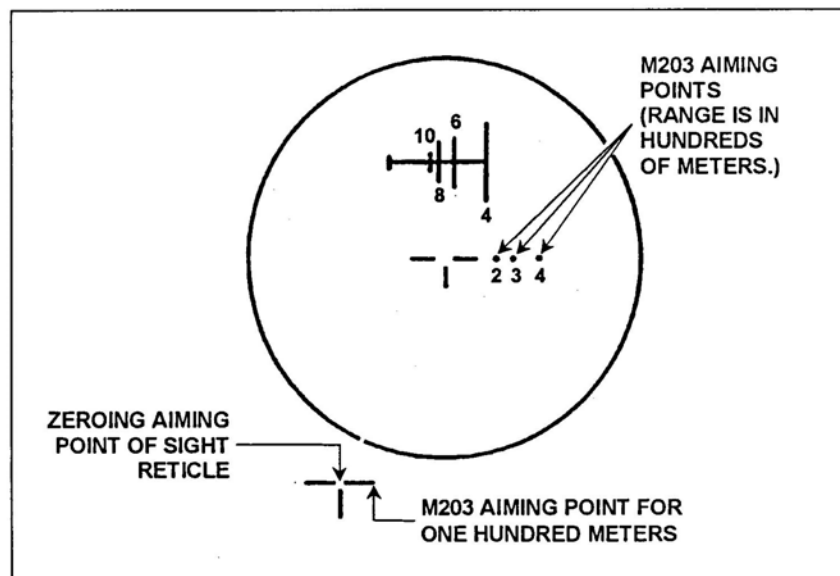

Figure 1. Zeroing Range Aiming Point
- Place the zeroing range aiming point (Figure 1) of the sight reticle on the target aiming point and fire; obtain a good three-round shot group. Locate the center of the shot group.